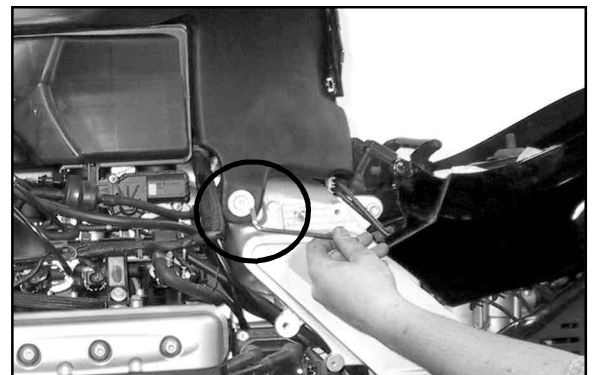

Figure 2
4. Remove the screws that hold the fuel tank. **Figure 2.**